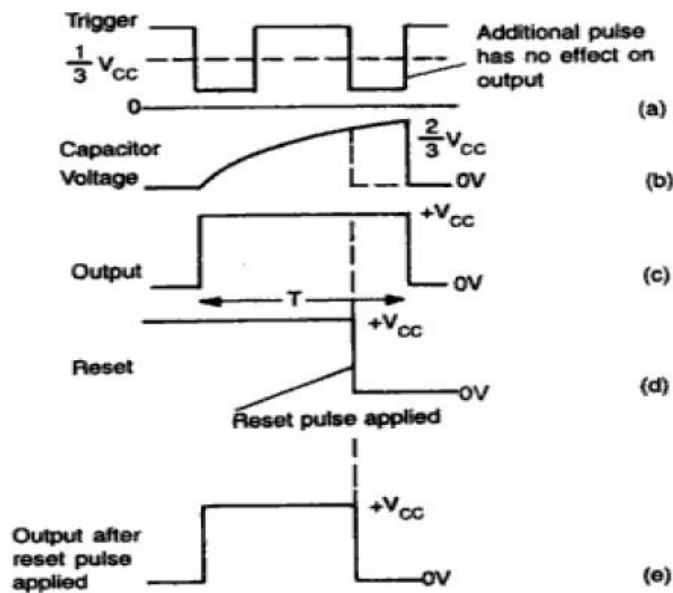

Fig. 8.5 Timing pulses
- Since C is unclamped, voltage across it rises exponentially through R towards V_{cc} with a time constant RC as in Figure 8.5 b.
However, if a negative going reset pulse as in Figure 8.5 d is applied to the reset terminal during the timing cycle, transistor Q2 goes off, Q1 becomes on and the external timing capacitor C is immediately discharged. The output now will be as in Figure 8.5 e.